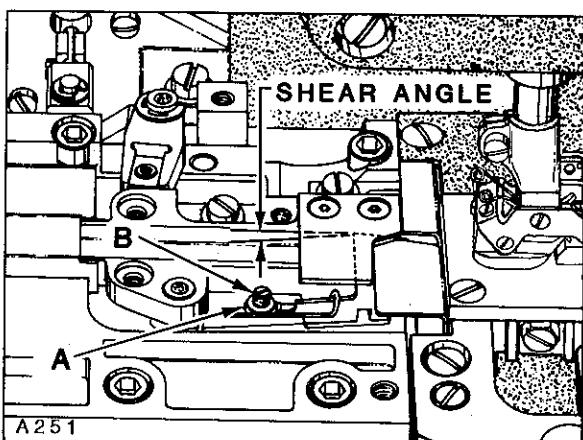

Fig.29
Adjustment of shear angle can be made by loosening nut (A, Fig. 29) and turning screw (B) clockwise (a small amount at a time) while manually operating knife lever (C), continuously checking with a piece of thread to see if knives are cutting. As soon as the knives fail to cut thread and the shear angle is zero, turn screw (B) counterclockwise approximately $1/4$ turn and lock with nut (A). Check cutting action of knives when air motor is operating.